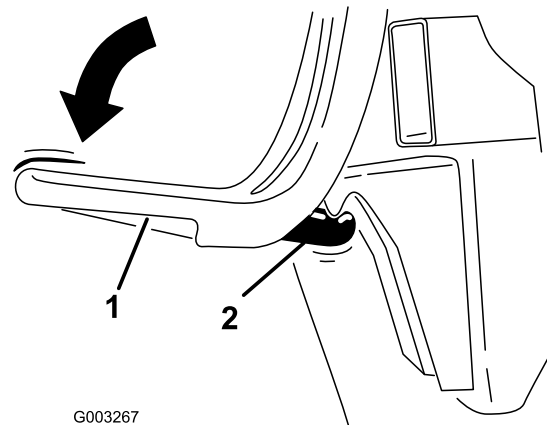

Figure 11
5. Position the bagger latch under the latch hook (Figure 11).
6. Push down on bagger latch until it locks into place (Figure 11).